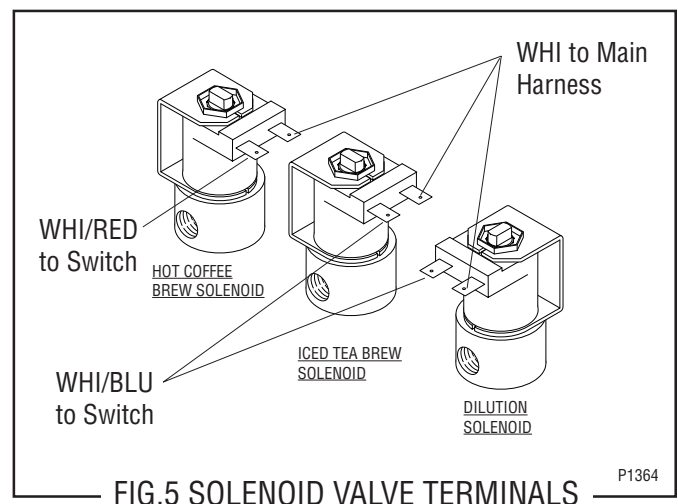

FIG.5 SOLENOID VALVE TERMINALS
10. Refer to Fig. 5 when reconnecting the wires.